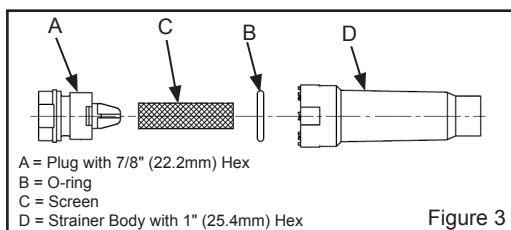

Figure 3
3. Water Flow: Confirm proper water flow. If water flow is slow, inspect filter or inline strainer for restriction. Replace filter cartridge if required. Disassemble inline strainer and clean if required. See Figure 3.